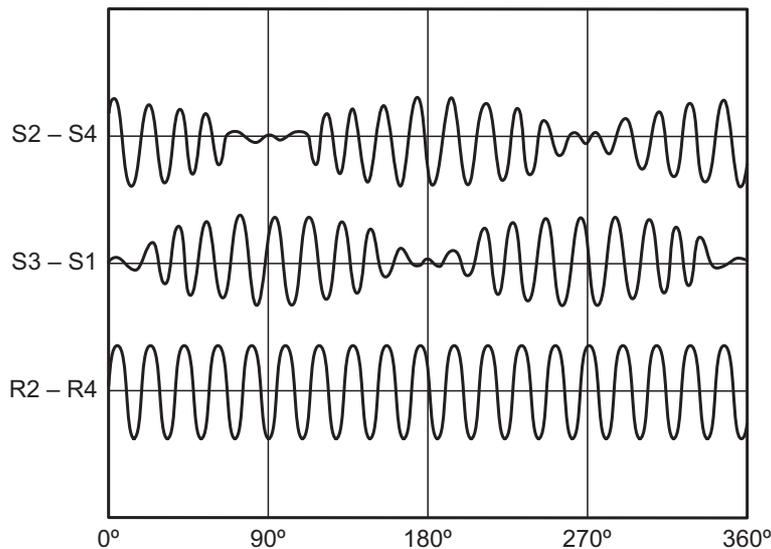

Fig.1 - Resolver format signal
**The signal feedback from the resolver should have the waveform shown in Fig.1 (S2-S4 should have 90degree phase difference from S3-S1) in terms of the motor rotation direction. The resolver installation direction and signal wiring should be done accordingly.**